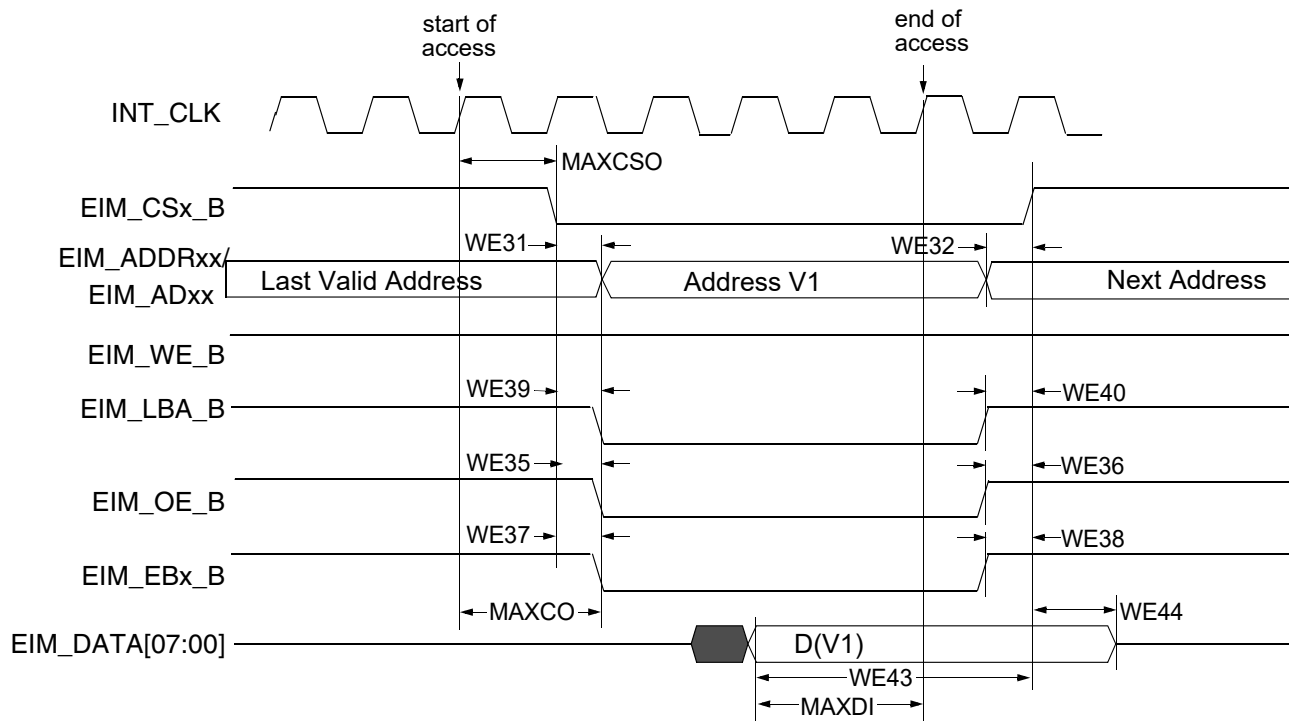
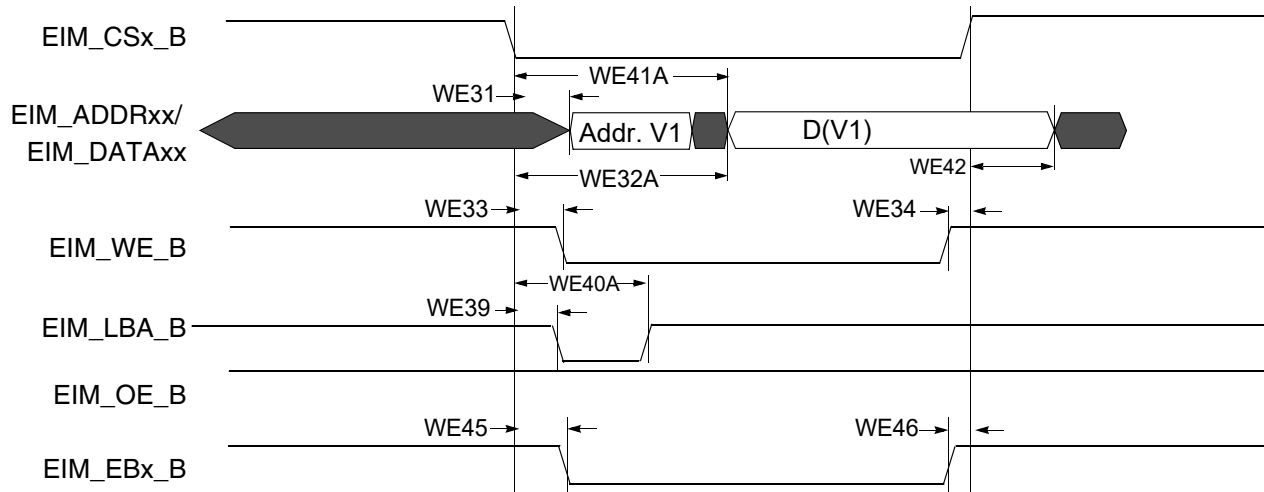

Figure 18. Asynchronous Memory Read Access (RWSC = 5)
Figure 21. Asynchronous A/D Muxed Write Access
Figure 18 through Figure 22 and Table 42 provide timing parameters relative to the chip select (CS) state for asynchronous and DTACK EIM accesses with corresponding EIM bit fields and the timing parameters mentioned above.
Asynchronous read and write access length in cycles may vary from what is shown in Figure 18 through Figure 21 as RWSC, OEN & CSN is configured differently. See the i.MX 6Dual/6Quad reference manual (IMX6DQRM) for the EIM programming model.